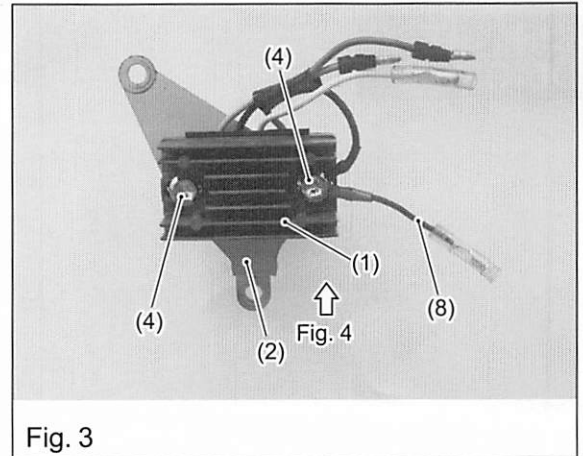
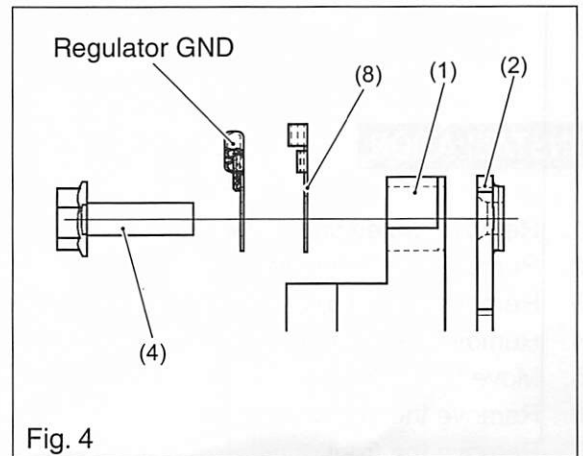

Fig. 3
Fig. 4
Tighten the receptacle GND lead (8) with the bolt as shown in Fig. 3 & Fig. 4.